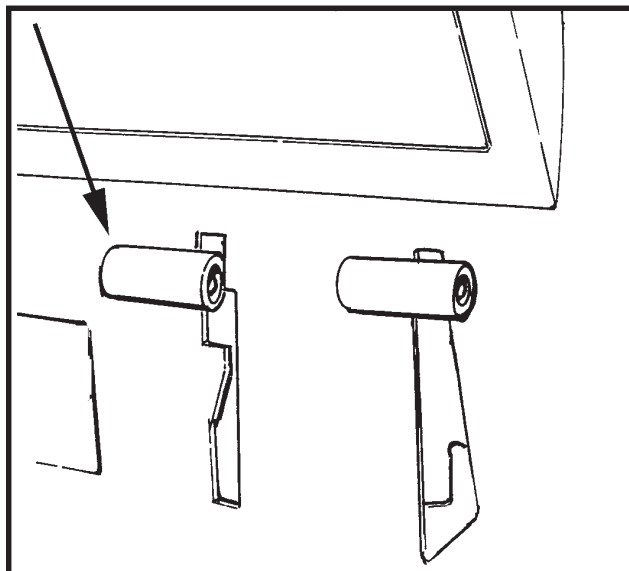

Figure 7
2. To raise the squeegee, lift the squeegee lever up. See figure 7.